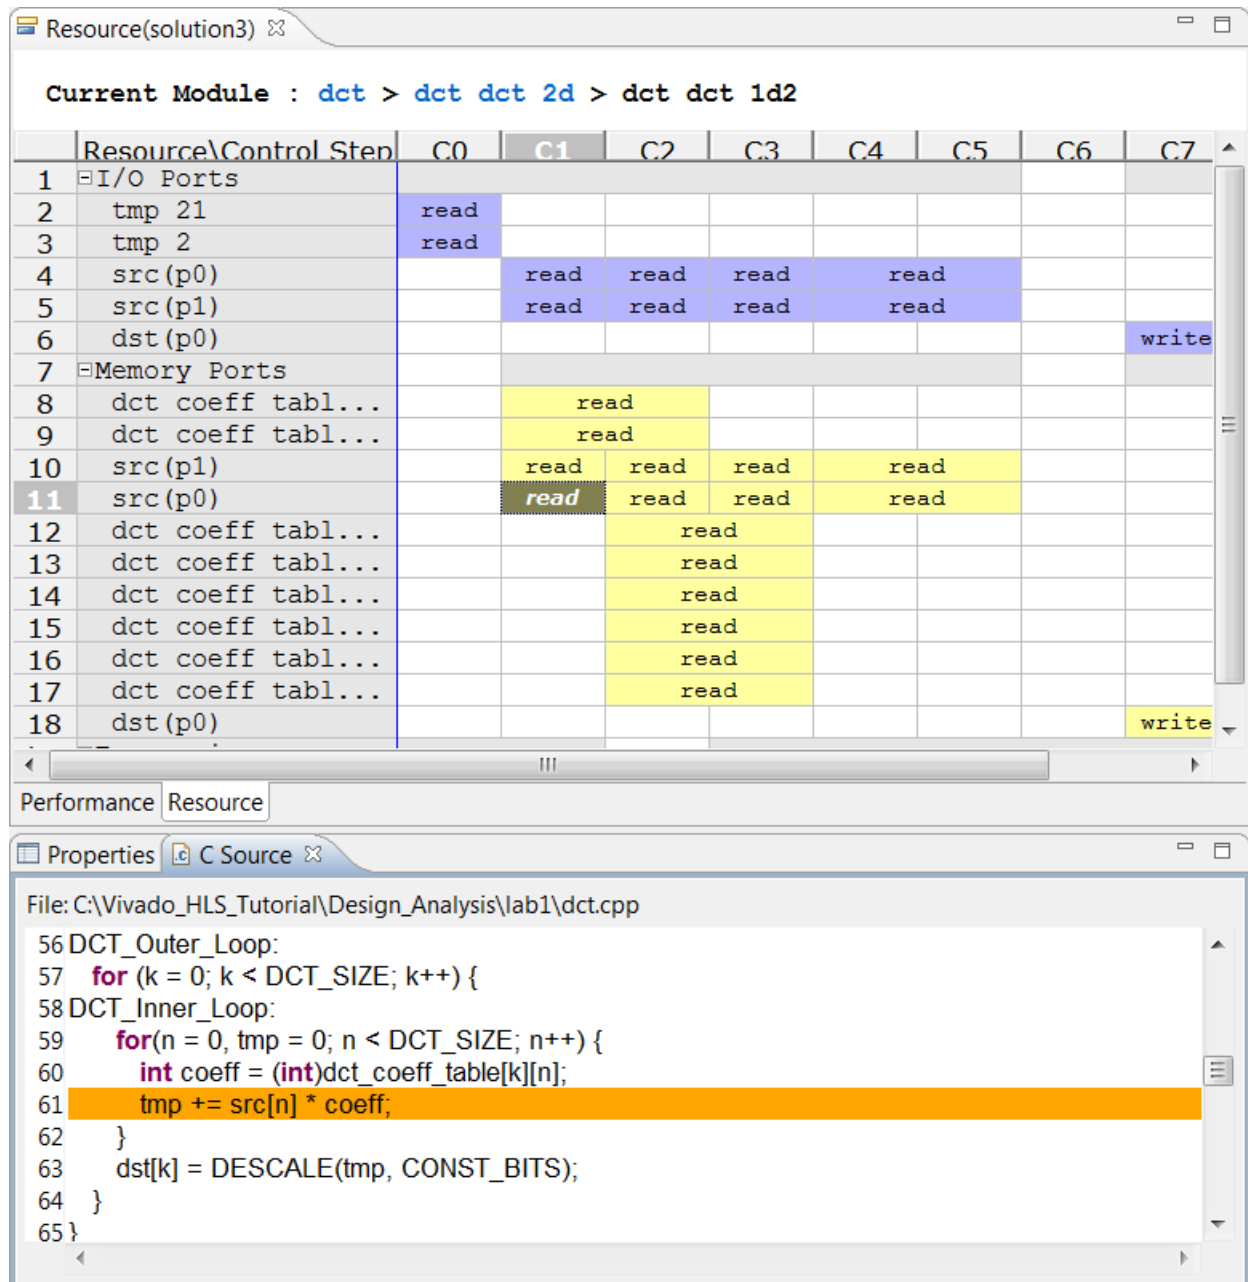

Figure 6-25: Memory Resource SRC and Source Code
19. Right-click and select **Goto Source** to see the view shown in Figure 6-25.
Figure 6-25 shows this read on the `src` variable is from the read operation inside loop `DCT_Inner_Loop`. This loop was automatically unrolled when `DCT_Outer_Loop` was pipelined and all operations in this loop can occur in parallel (if data dependencies allow).
The eight reads are being forced to occur over multiple cycles because the array `src` is implemented as a block RAM in the RTL and a block RAM can only allow two reads (maximum) in any one clock cycle. In Figure 6-25, the read operations take 2 clocks cycles: a cycle to generate the address for the block RAM and a cycle to read the data. Only the